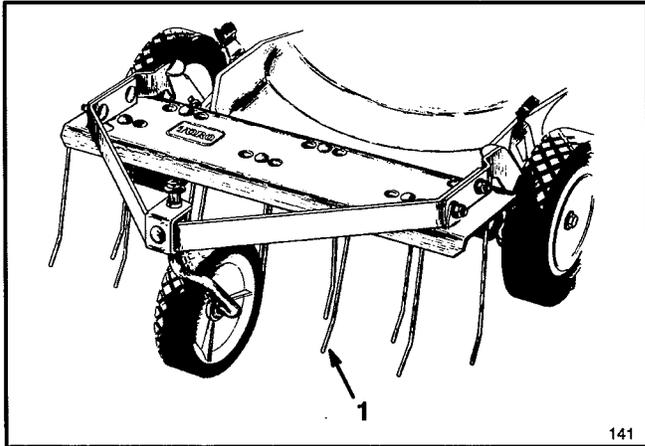

Figure 35
1. Dethatcher Kit, Model No. 59131—Installs in minutes. Front mounted for easy maneuverability. Spring tines loosen thatch for clean vacuuming into grass bag (Fig. 35) and convenient disposal.